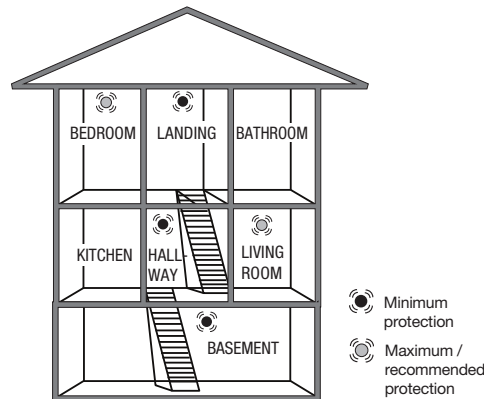

FIGURE 2. Multi-storey home
**Multi-storey home:** To achieve minimum protection, position and alarm in the stairwell (at ground level) and another alarm above the landing on the top floor, as well as an alarm on the ceiling in the basement at the foot of the stairs. This covers the basement level, but not crawl spaces and unfurnished attics. See the example in Figure 2.